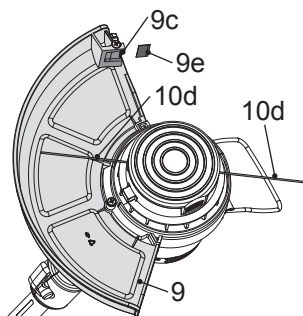

Fig. 7
The guard (9) protects the operator against thrown objects during operation. It is equipped with a knife (9c) that cuts the trimming lines (10d) (Fig. 7).